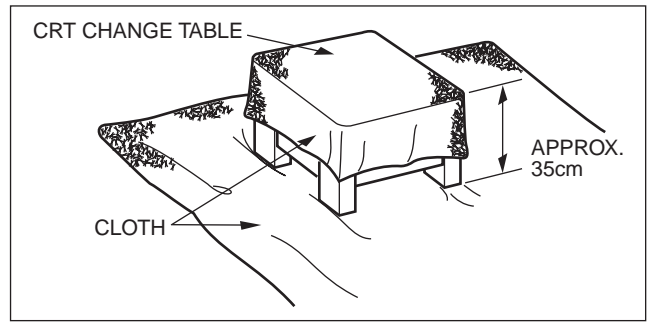

Fig.5
- (1) Putting the CRT change table on soft cloth, the CRT change table should also be covered with such soft cloth (shown in Fig. 5).